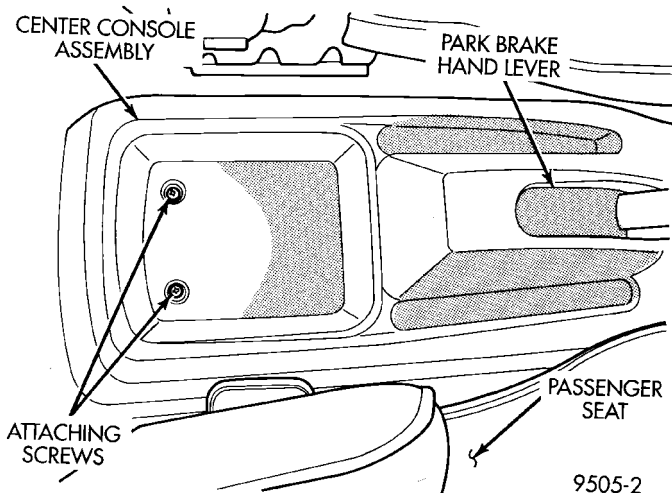
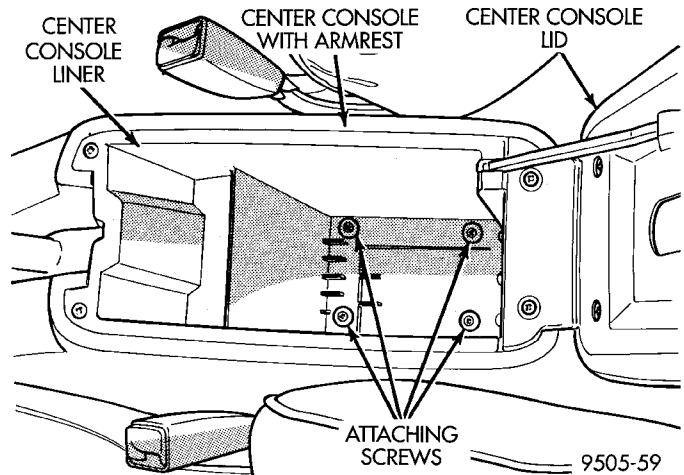
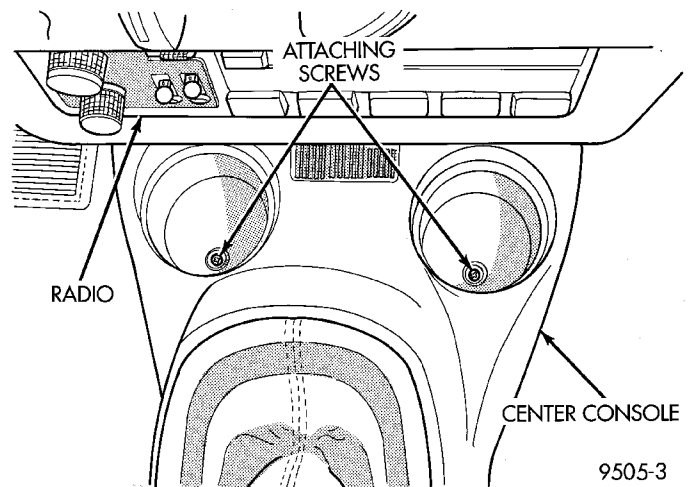

Fig. 125 Center Console Rear Attaching Screws W/O Arm Rest
Fig. 126 Center Console Rear Attaching Screws With Arm Rest
Fig. 127 Attaching Screws At Front Of Center Console
- (1) Remove the screws attaching the rear of the center console assembly to console bracket (Fig. 125) or (Fig. 126).
- (2) Remove the 2 screws located in cup holders (Fig. 127), attaching front of center console assembly to console bracket.
- (3) Raise park brake hand lever as high as it will go to get the required clearance to remove the center console.
(6) Cycle park brake lever once to position park brake cables. Then return the park brake lever its released position. Check the rear wheels of the vehicle. They should rotate freely without dragging.
(7) Raise park brake lever to its fully engaged position. This is necessary to allow installation of the center console.
(8) Install center console assembly.
(9) Install the 4 center console assembly attaching screws (Fig. 125), (Fig. 126) and (Fig. 127).